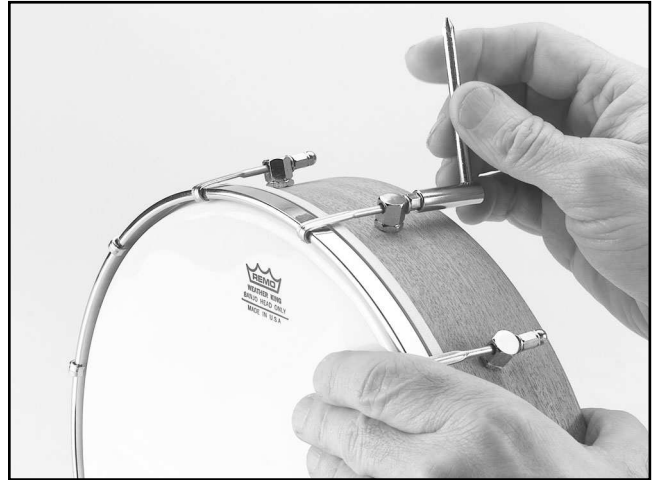

Figure 8. Tightening the bracket hook nuts.
6. Use the included wrench to tighten the bracket hook nuts. Proceed clockwise, tightening each nut $\frac{1}{2}$ turn as shown in **Figure 8**.